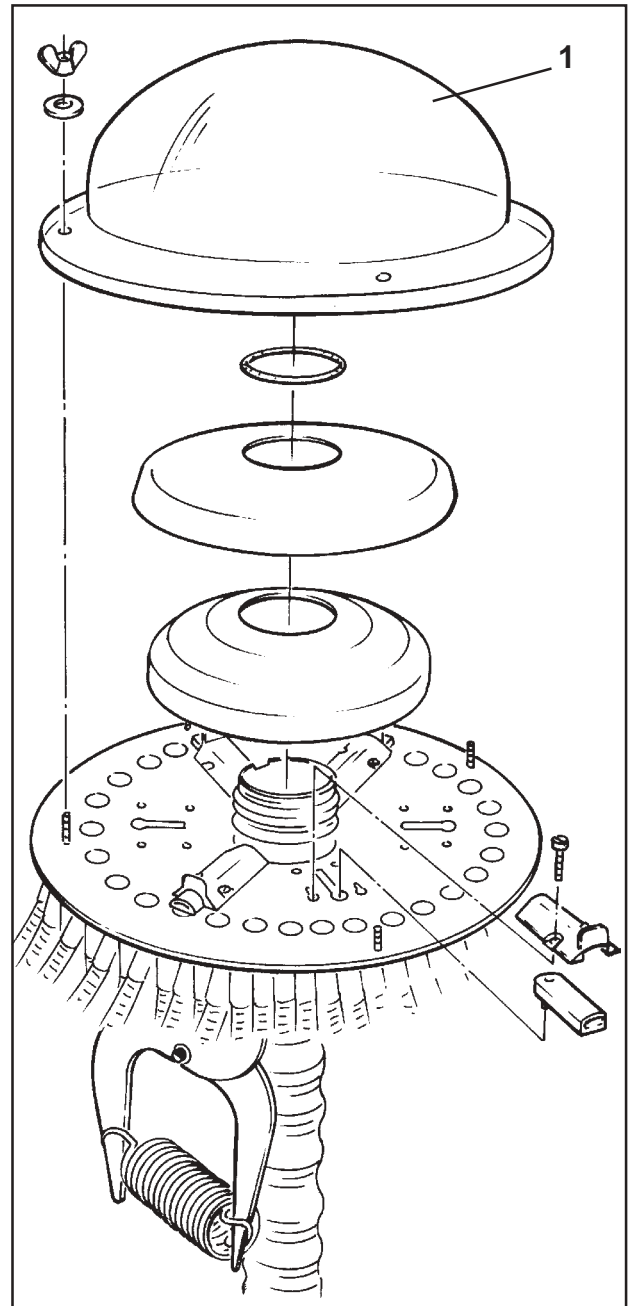

Fig. 11.1
- **Check distributor head** (Fig.11.1) regularly and clean - especially when sowing dressed seeds - after every operation.